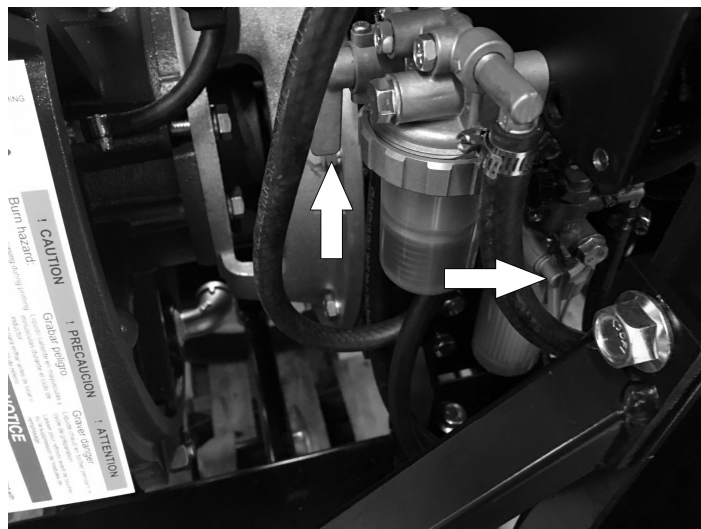

Figure 1 – Fuel Valves
5. Open all valves in the fuel system, fuel tank, fuel filter, & water separator. Valves may be closed for shipping. Operating starter with valves closed may result in an air locked fuel system. Consult engine manufacturer for remedy to air locked fuel system. SEE FIGURE 1